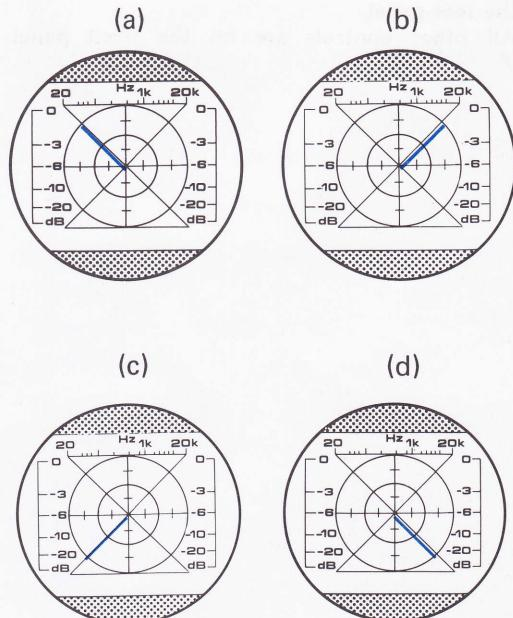

Fig. 9
12. Adjust the VERT and HORIZ GAIN controls to obtain a pattern (line approx 20mm) as shown in Fig. 9-(a).
13. Change the input connection to CH 3 on the rear panel. You should now obtain a pattern as in Fig. 9-(b).
14. Now change the input connection to CH 2 to obtain a pattern as in Fig. 9-(c).
16. Change the input connection to CH 4. A pattern as in Fig. 9-(d) should appear.